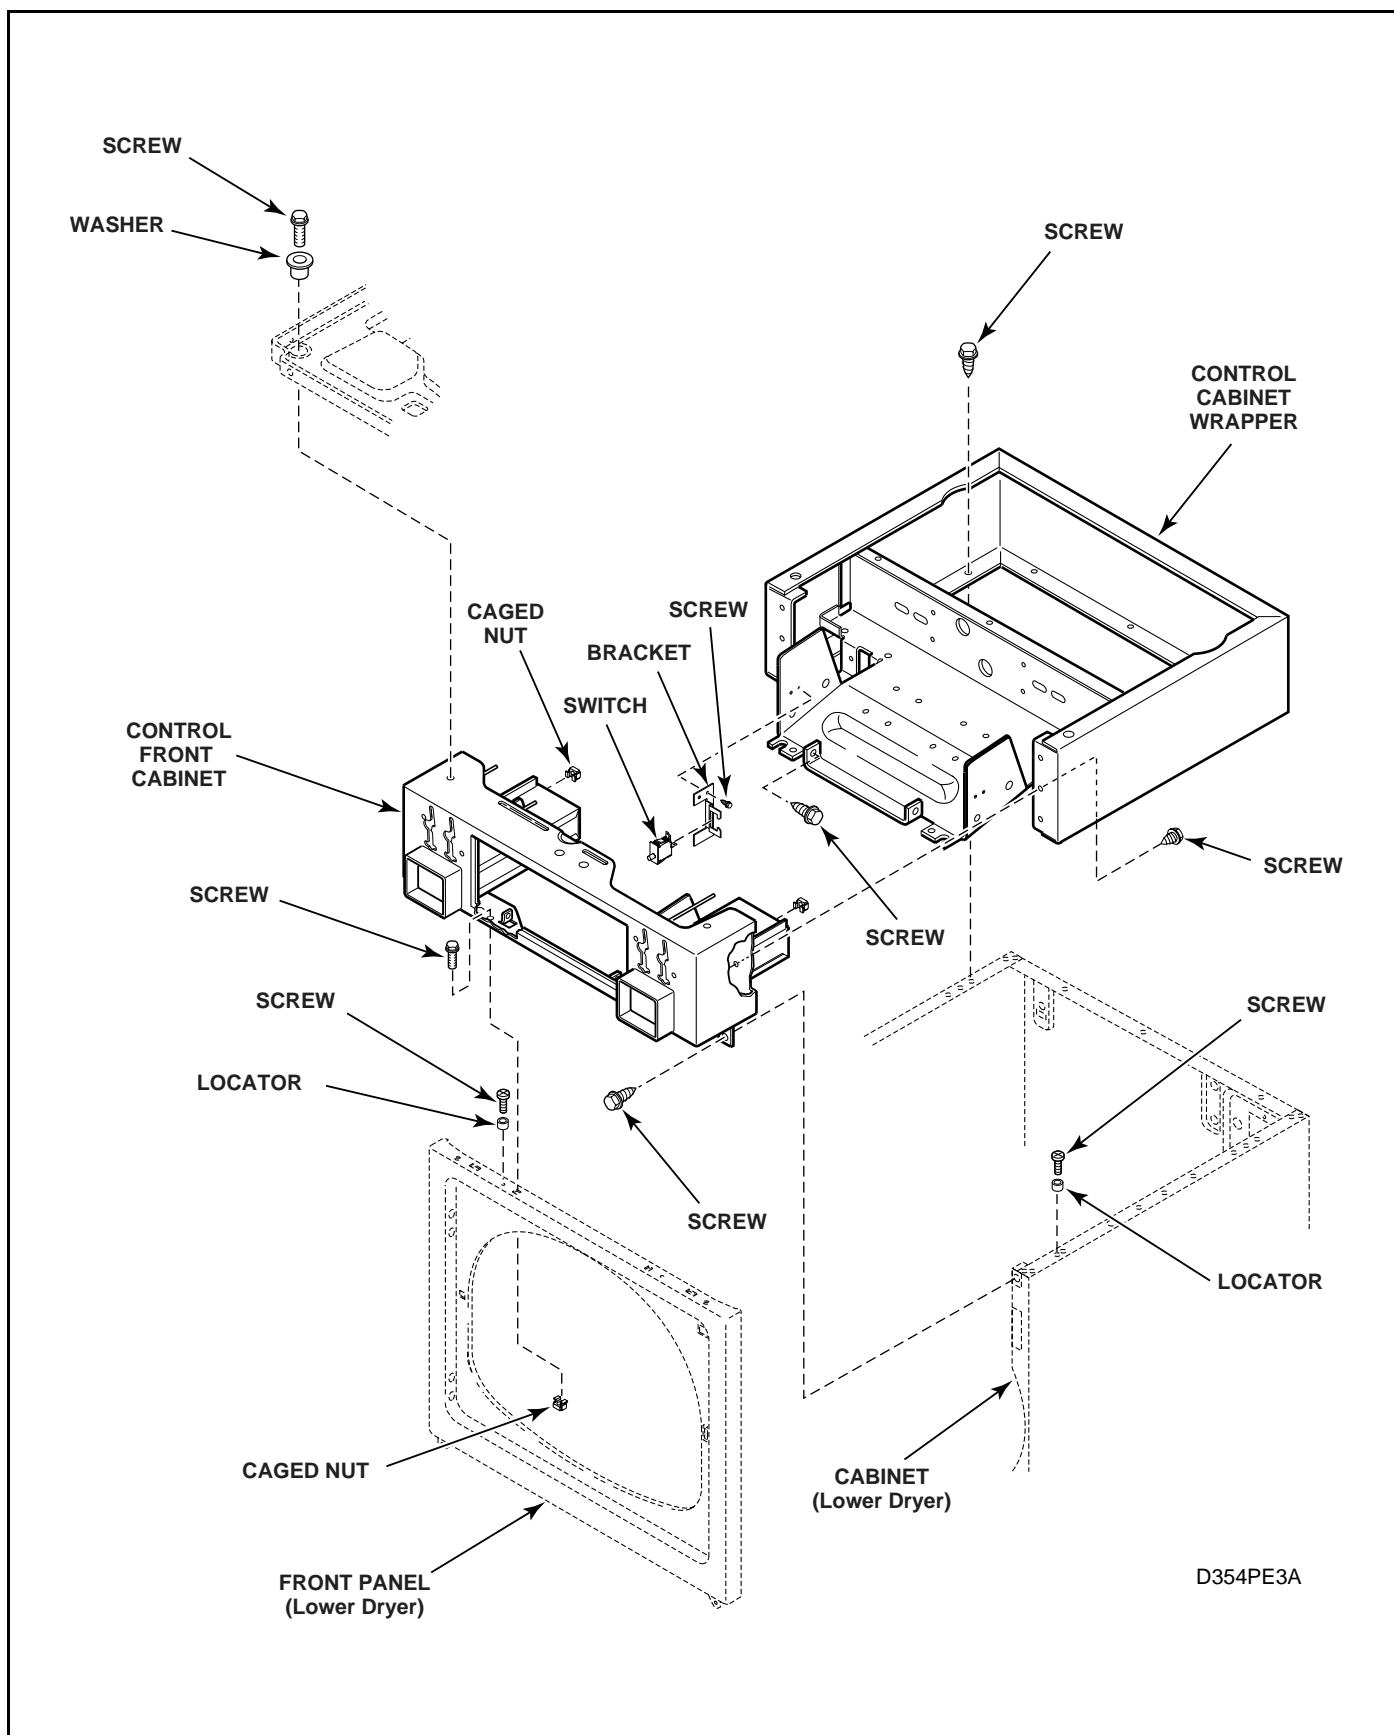

Figure 11
- n. **METERED MODELS** (Coin Drop and Coin Slide) - Unlock and remove two coin drawers. Reach in through coin drawer opening and remove two screws (per side) holding control cabinet to control cabinet wrapper. See *Figure 11*.